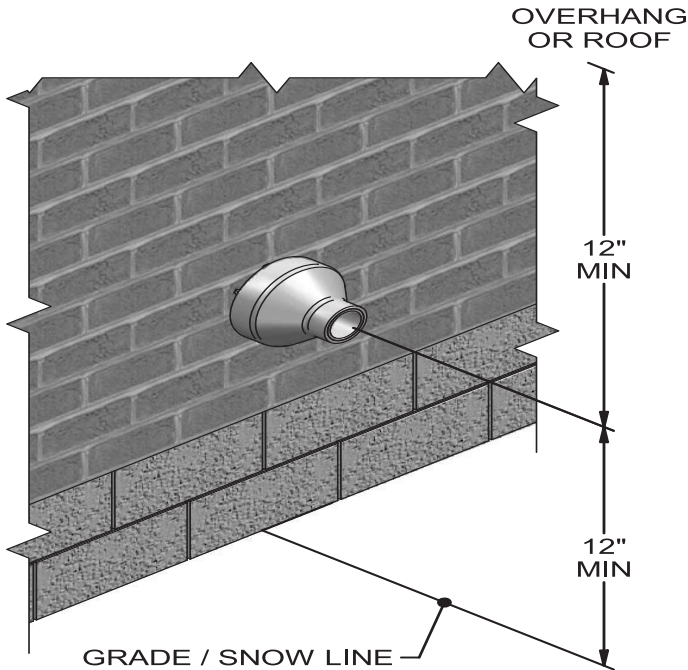

Figure 35. Concentric Sidewall Termination
A. O. Smith offers optional concentric combustion air and vent pipe termination kits (Factory Kit #100274637 for 3” diameter - Models 150 - 200 and #100274638 for 4” diameter - Models 285 - 600). Both combustion air and vent pipes must attach to the termination kit. The termination kits must terminate outside the structure and must be installed as shown below in Figure 35.
NOTE: Ensure termination location clearance dimensions are as shown in Figure 35.